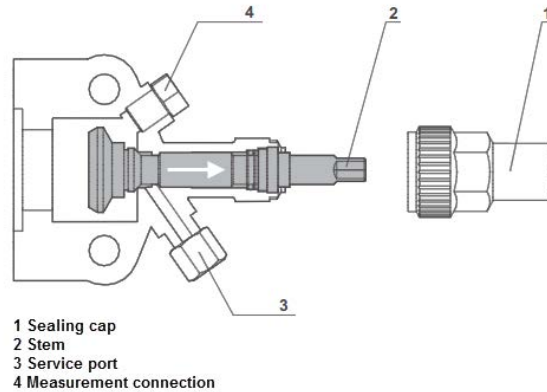

FIGURE 66: BACK SEATED SHUTOFF VALVE
7. Back seat both compressor high and low pressure service valves to reconnect the compressor to the system (figure 66).